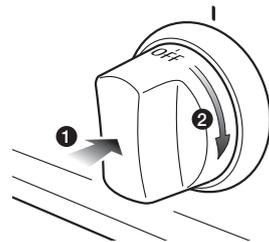

Fig. 3.4
**VERY IMPORTANT: ALWAYS LIGHTLY PRESS THE CONTROL KNOB WHEN TURNING THE FUNCTION KNOB FROM THE OFF POSITION** (fig. 3.4).